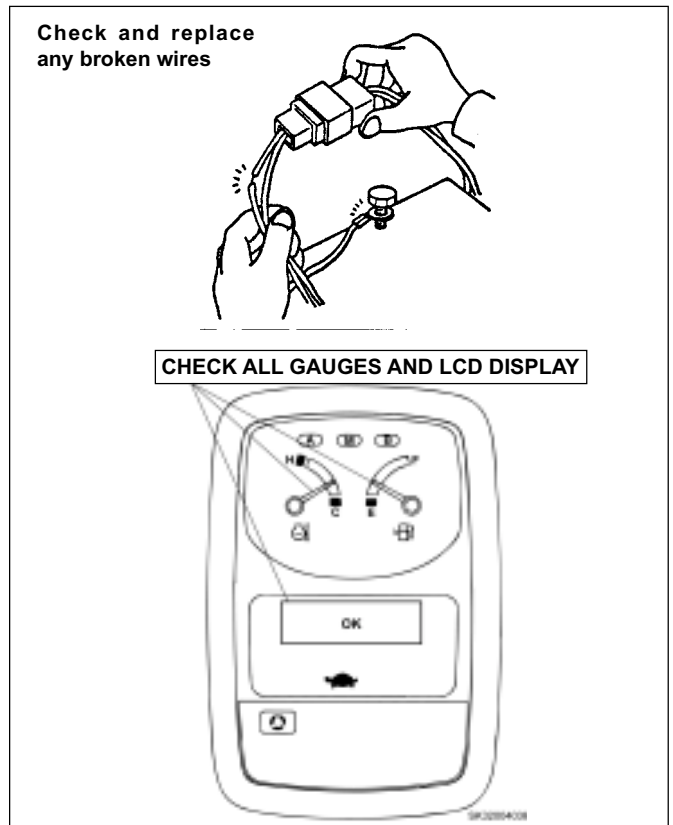

FIGURE 4.17C
4. Check all gauges and L.C.D. Display on the gauge cluster display for proper operation. See Figure 4.17C.